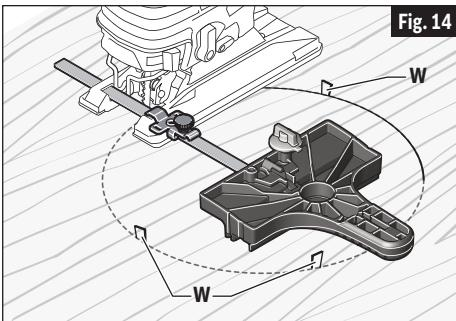

Fig. 14
- Place small wedges (**W**) in the cut as shown in Fig. 14, to keep the inner circle from spreading when near the end of the cut.